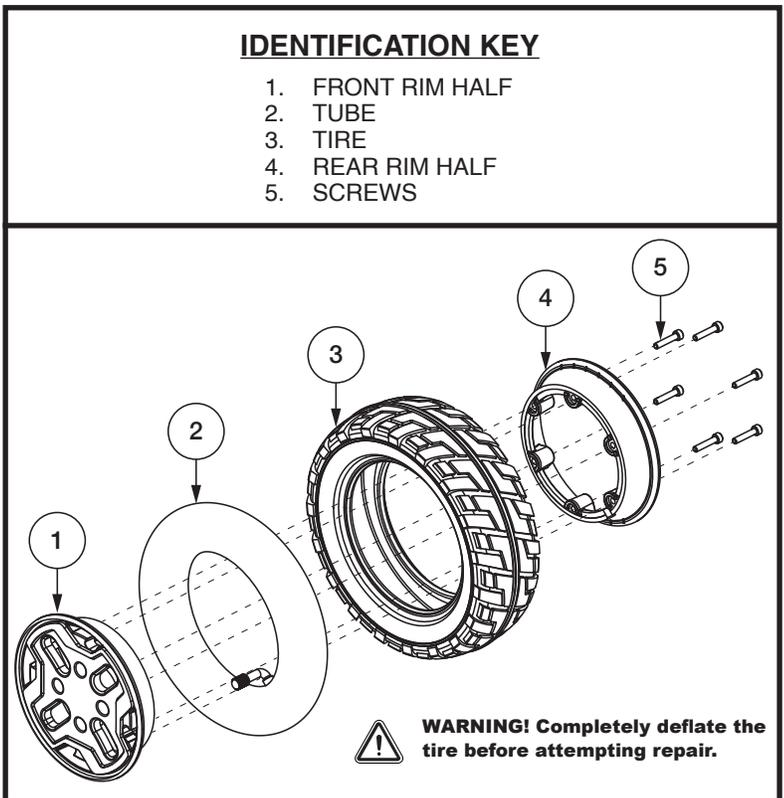

Figure 22. Pneumatic Drive Wheel Disassembly/Assembly
6. Remove the screws and separate the rim halves. See **figure 22**.